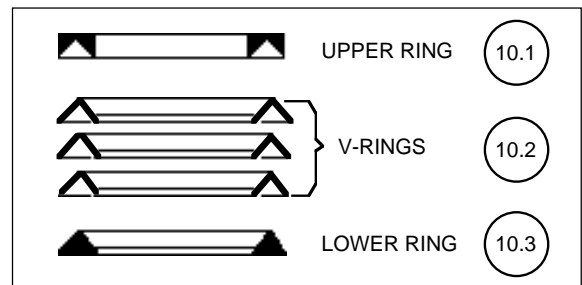

Figure 4: Packing
- a. Slip new V-ring packing (10.1)(10.2)(10.3) over threaded end of stem (4) as indicated in Figure 4. **DO NOT INVERT PACKING RINGS (10)!**